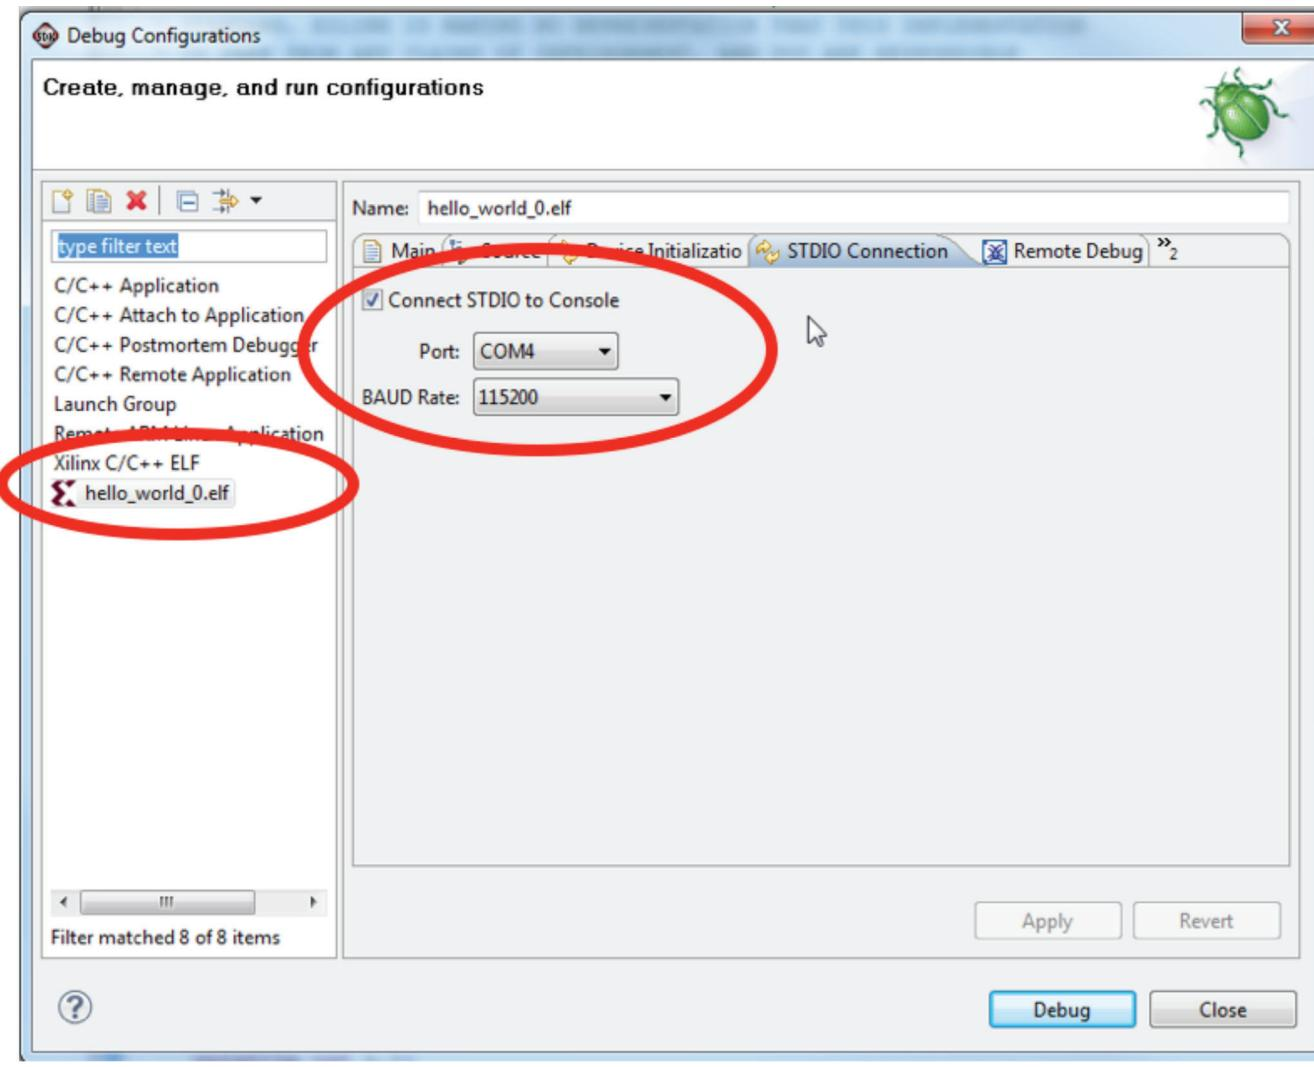

Figure 12: COM Port Settings
8. Click **Xilinx C/C++ ELF > hello_world_0 Debug**. Under the **STDIO Connection** tab, set the **COM Port** based on your workstation environment and set the **Baud Rate** to **115200**. (COM 4 is shown in Figure 12 as an example.)